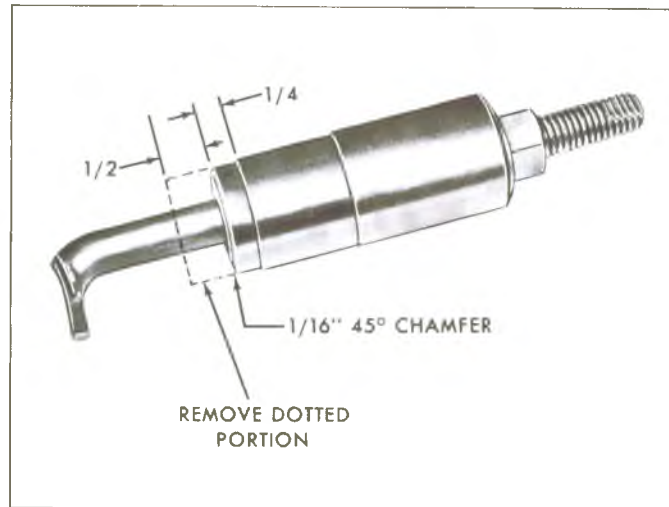

Fig. 96—Revised Shift Tube Removing Tool J-22551
13. Rework Shift Tube Removing Tool J-22551 by removing 1/2" from the pilot end of the tool (Fig. 96). This allows the shift tube to be pushed further out of the housing and will not affect the use of the tool on other columns.